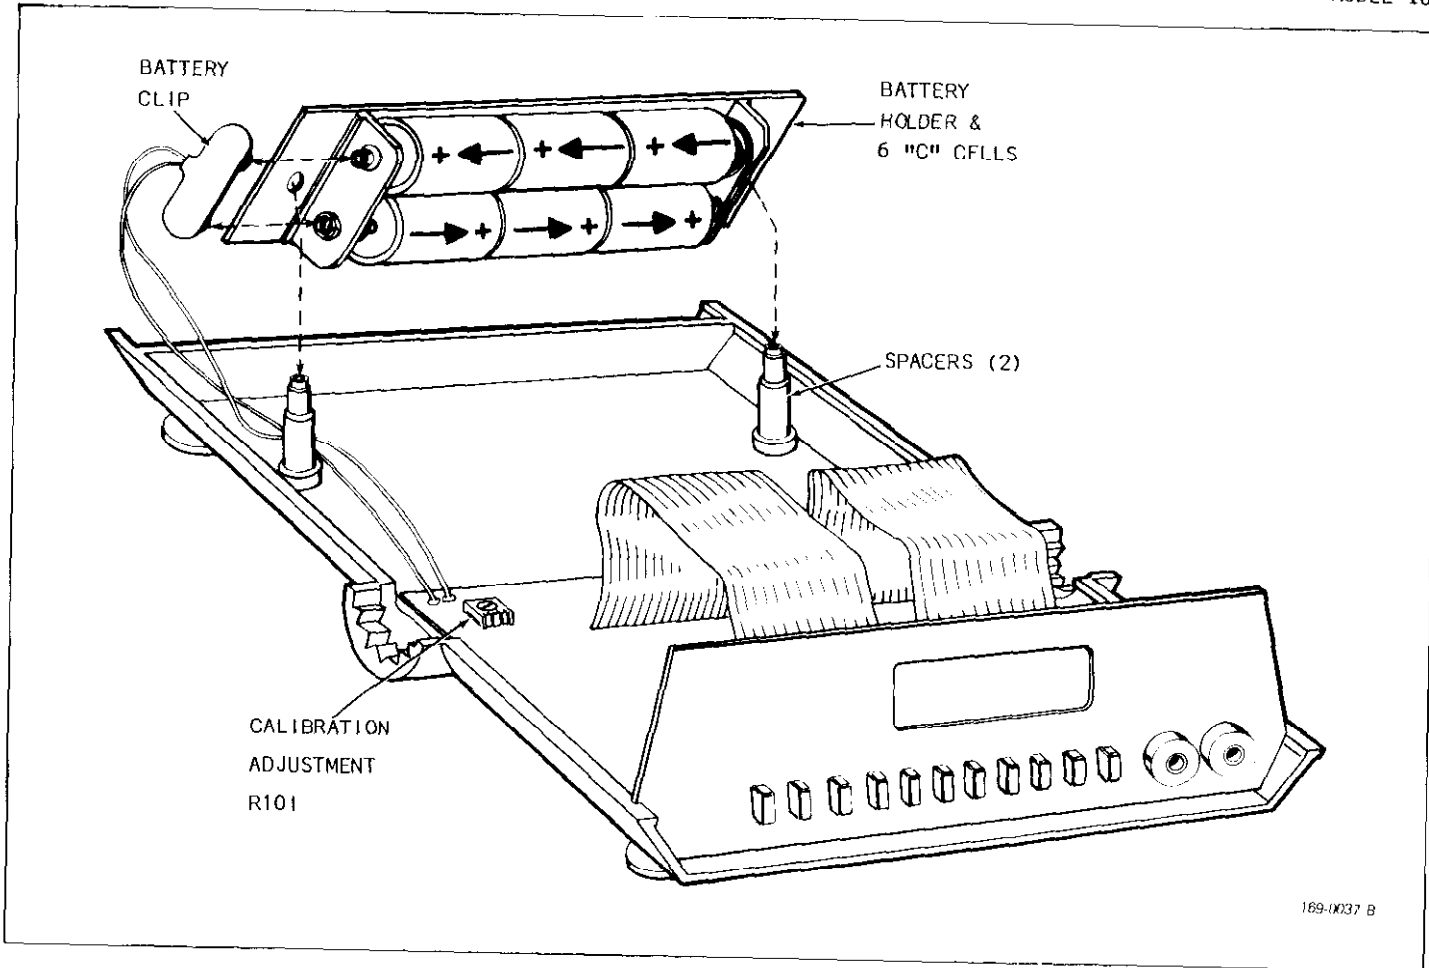

FIGURE 2-1. Installation of Batteries.
c. Install the batteries in the holder as shown in Figure 2-1.